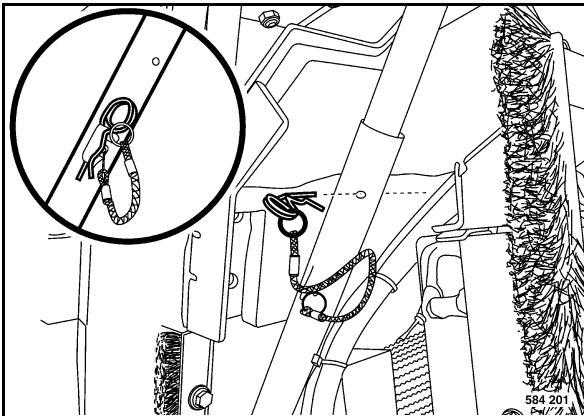

Fig. 153
- Open the engine hood (Fig. 153) completely and secure it.